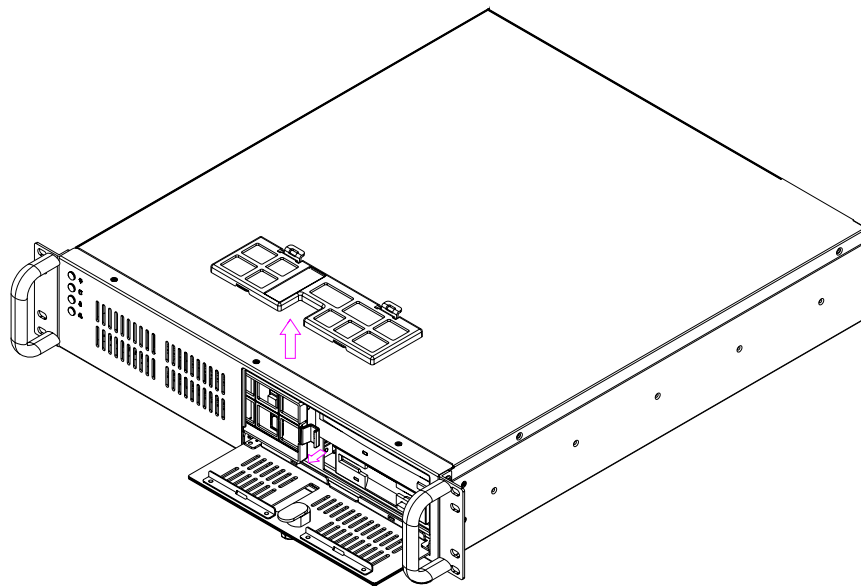

Figure 3.6 Cleaning the filters
3. To pull out the fan filter, push the hook and slide it right wards (see Figure 3.6).